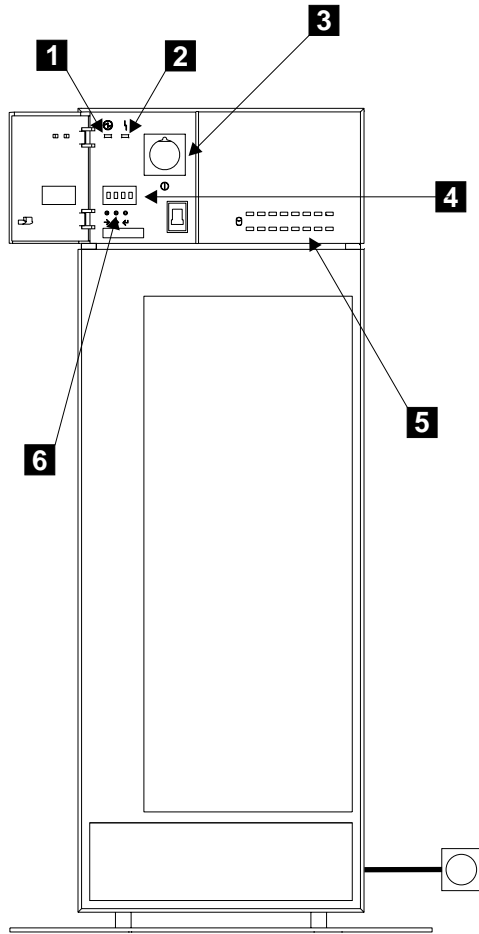

Figure 14. Checking the Lights
Step 9. Refer to Figure 14.
When the configuration is complete, observe the 7133, and check whether the lights and the ID display are as described here (refer to Figure 14 on page 25):